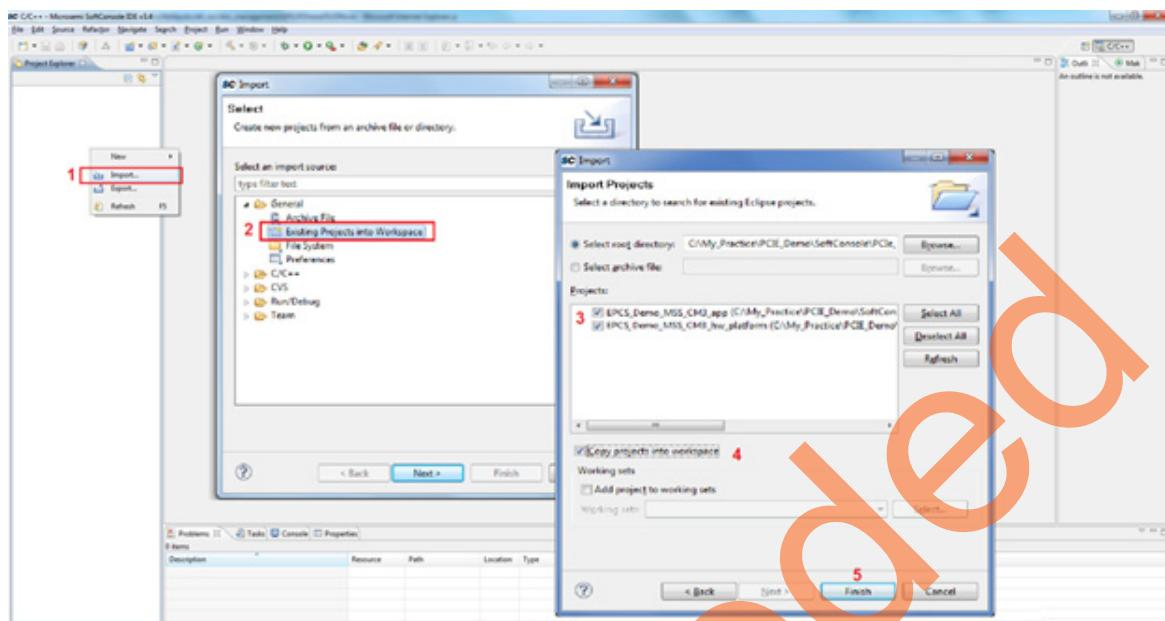

Figure 51 • Import the Existing Project into Workspace
4. Import the existing project into workspace as shown in Figure 51.